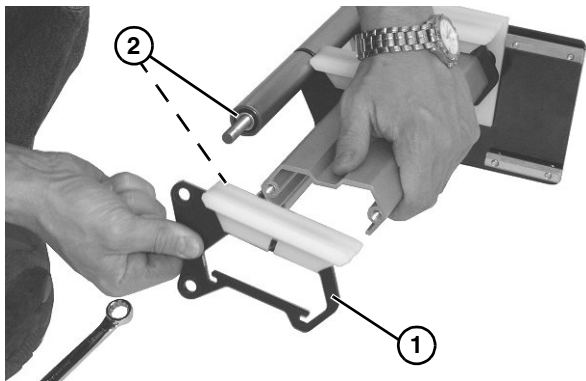

Figure 59
- Slide the support plate (**Figure 59, item 1**) off of both axle shafts.
- Remove washer (**Figure 59, item 2**) off of lower and upper axle shafts.